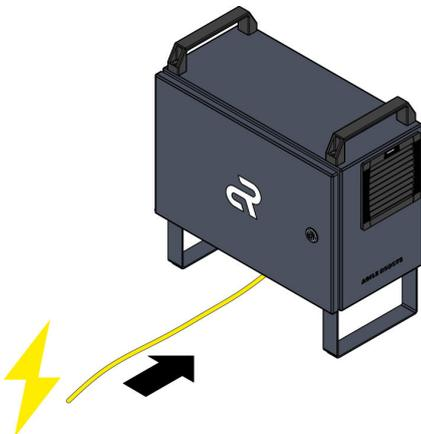

Fig. 80 Disconnecting the power supply
03. Disconnect the robot controller from the owner's power supply. To do this, disconnect the power cable from the power outlet Fig. 80.